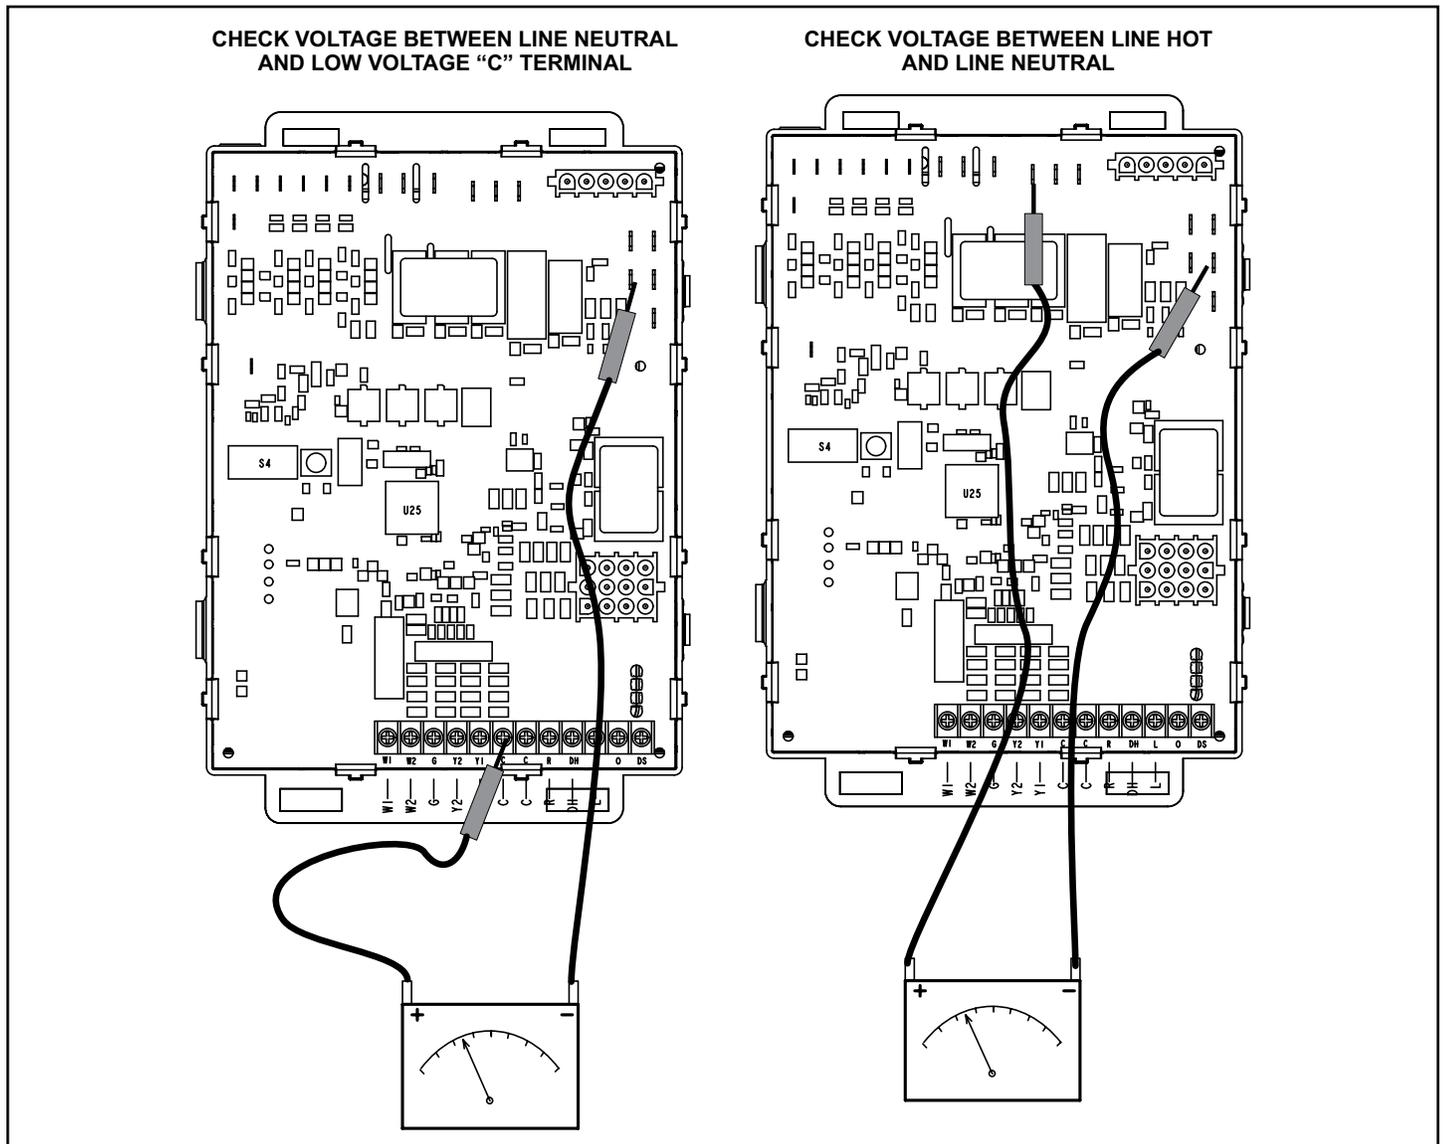

Figure 15.
1. Measure the AC voltage between Line Neutral (spade terminals) and "C" terminal (low voltage terminal block) on the integrated control. See Figure 15. A wide variation in the voltage between Line Neutral and "C" as a function of load indicates a poor or partial ground. Compare the readings to Table 14. If the readings exceed the maximum shown in Table 14, make repairs before operating the furnace.
2. In addition, measure the AC voltage from Line Hot to Line Neutral (spade terminals) on the integrated control. See Figure 15. This voltage should be in the range of 97 to 132 Vac.